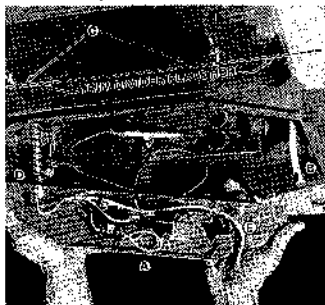

Figure 3.
3. To install the Divider Plate, remove the wing nuts and washers found on the weld bolts in the discharge side of the Ceiling Frame Assembly. Insert Divider up against bottom of the unit. Replace washers and wing nuts. Be sure the Felt Trim around upper edges of Divider Plate is providing a seal. Use snips to trim portion of Divider Plate that might extend below the Ceiling Plate. Use "duct tape", or equivalent, to seal the open slots in the Divider Plate and other openings that may remain around the Felt Gasket. (See C, Figure 3)
4. Reach up into the Air Return section and pull down the Control Panel Assembly that is attached to the flexible metal Conduit. Discard the cardboard protective cover. (See A, Figure 3)
5. Pass the 115 volt supply wires through the Connector on the right side of the Control Box. (The right side as the installer faces the rear of the coach). Pull 3 to 5 inches of wire through and tighten the Connector to secure the wire. (See E, Figure 3)